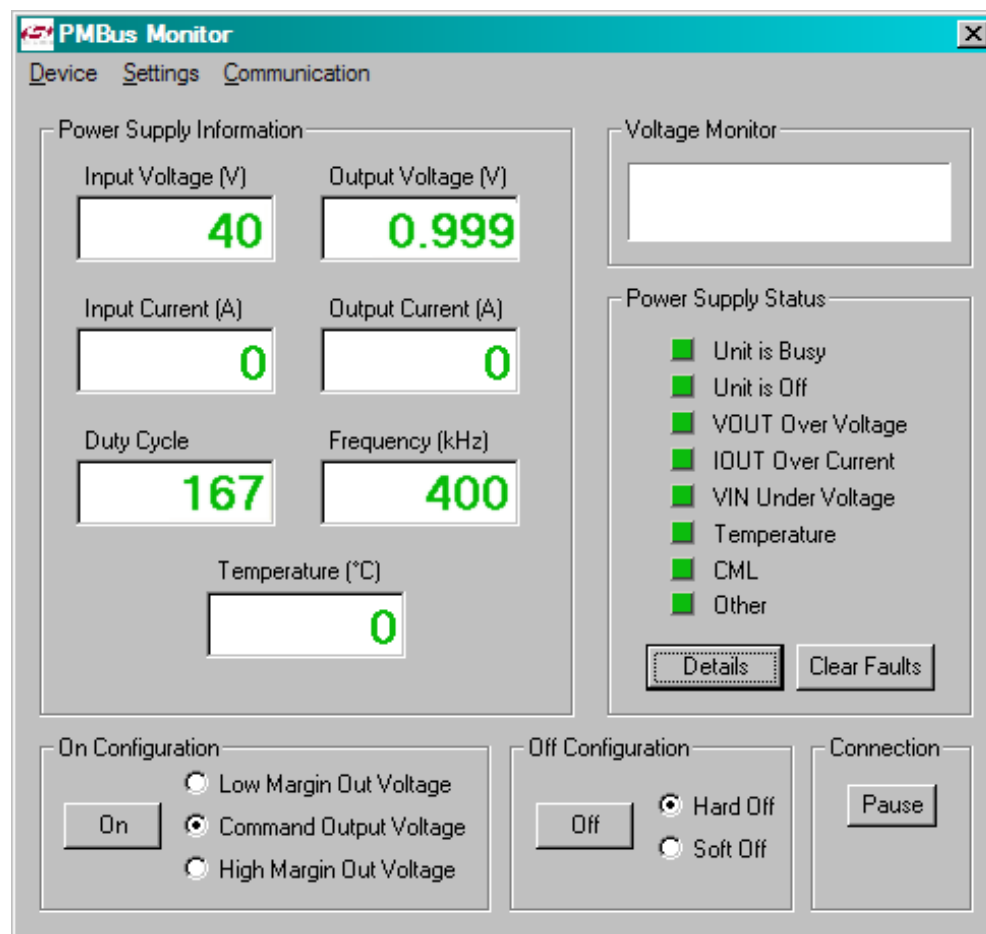

Figure 5. View of the PMBus Monitor
8. Run the PMBus Monitor application by selecting **Options→Launch PMBus Monitor Tool** from the Application Builder. The window shown in Figure 5 will appear. The PMBus Monitor can be used to control and configure the target board. The target can be enabled/disabled through the monitor. The PMBus Monitor allows parameters, such as fault thresholds, to be changed. It also reports operating conditions and problems.